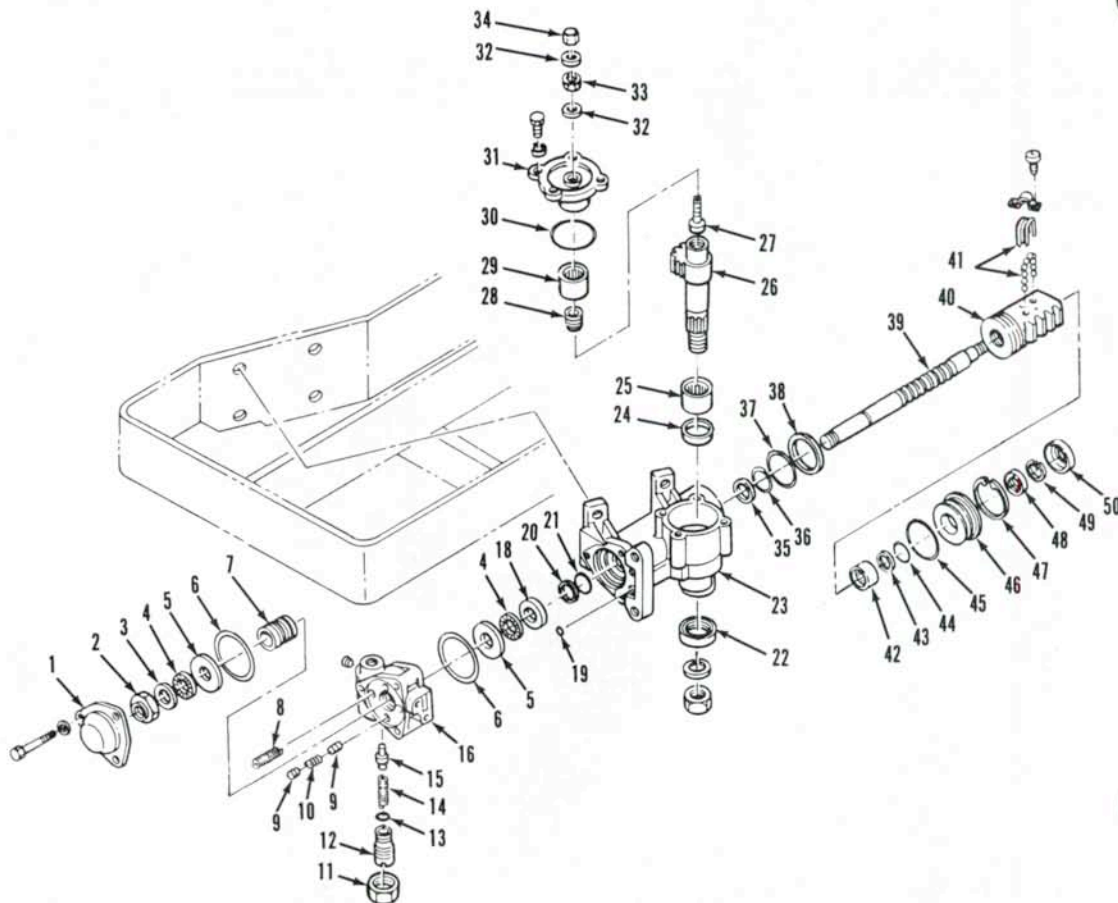

Fig. 38—Exploded view of steering gear assembly used on 1710 Offset models equipped with power steering.
To disassemble, remove front cover (1—Fig. 38). Remove nut (2), thrust bearing assemblies and control valve (16) assembly from worm shaft. Be careful not to lose centering pistons (9) and springs (8 and 10). Remove relief valve assembly (11 through 15) from control valve if necessary.
Check steering gear housing (23—Fig. 38) cylinder bore for wear or score marks. Renew parts as necessary if clearance between ball nut and housing bore exceeds 0.15 mm (0.006 inch).
Assemble ball nut and shaft, thrust bearings and control valve assembly to gear housing. Install special assembly plate (Fig. 35) using three cap screws from cover plate to hold components in place, then adjust bearing preload as follows: While holding worm shaft, turn adjusting nut (2—Fig. 38) until all end play is removed. Stake the nut to the shaft to prevent loosening. Remove assembly plate and install cover plate (1).
After steering gear is reinstalled, adjust sector shaft adjusting screw (27—Fig. 38) to provide recommended steering wheel free travel of 20-30 mm (¾-1½ inches). Check relief valve pressure setting as outlined in paragraph 23.